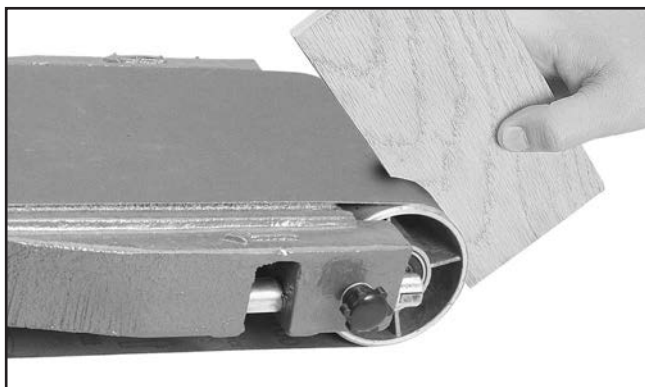

Figure 56. Example of contour sanding.
4. Slowly feed the workpiece into the curved end of the belt and continue moving the workpiece profile along the contour until you achieve your desired shape, as shown in **Figure 56**.